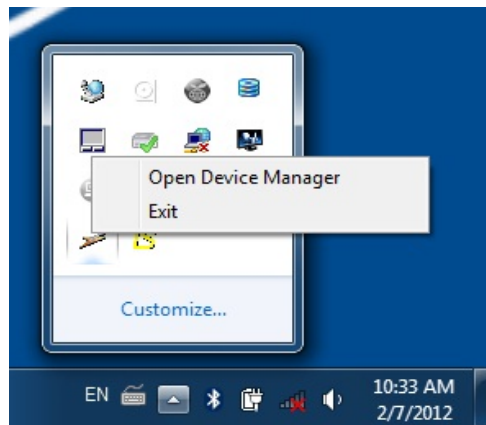

Figure 118: Opening the Device Manager Through the Quick Access Toolbar
- Locate the **Goby™ Device Manager** icon in the System Tray; right-click the icon and select **Exit** (Figure 118).